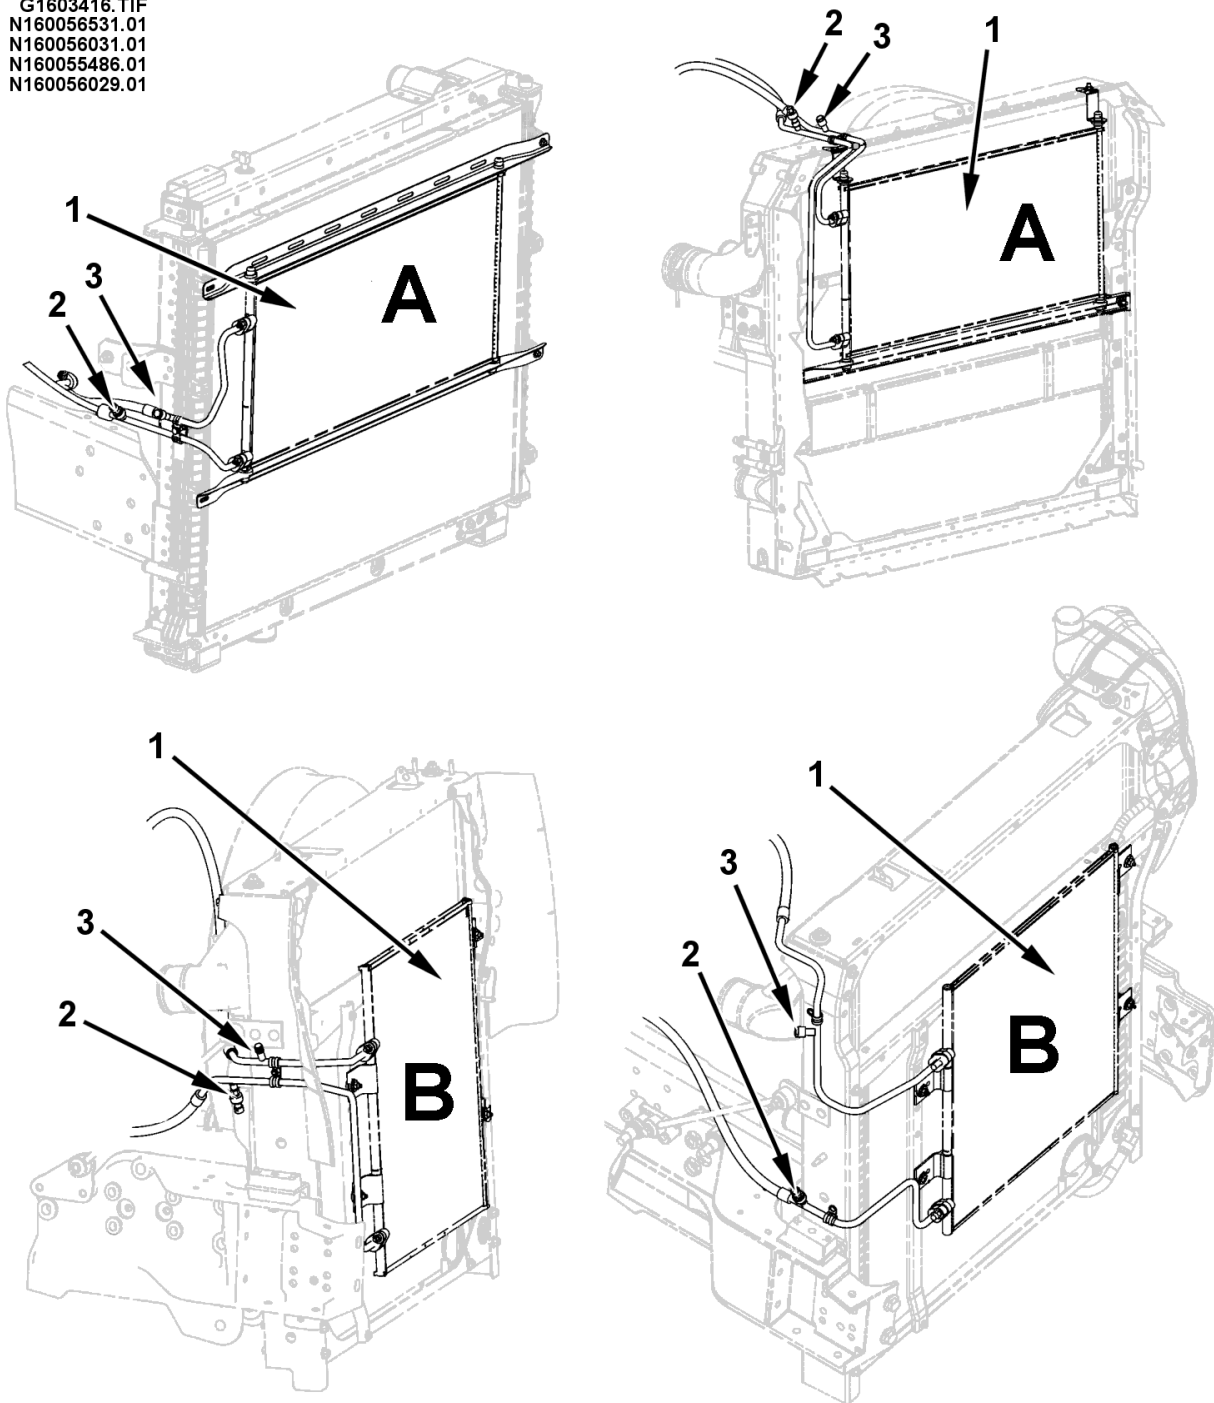

Figure 16 Typical Locations of A/C Condenser and Pressure Transducer
NOTE – Refer to Figure 16 while performing the following Remove and Install procedures.
1. Disconnect electrical connection to pressure transducer (2, Figure 16).
- Mounting style A (Figure 16): post and socket mounting.
- Mounting style B (Figure 16): mounting tabs and bolts.